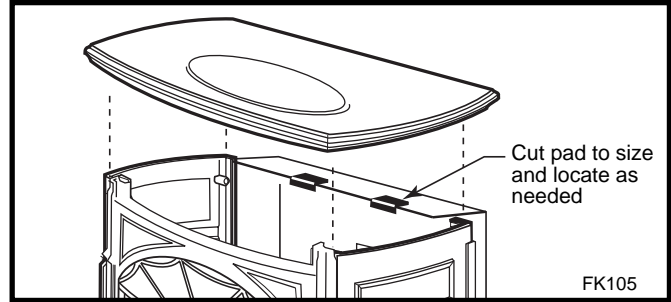

Fig. 21 Vibration dampening pad location.
- Cut the self-adhesive tape to size as needed, remove the backing paper and place tape on the top edge of the Shroud at those locations where it will eliminate direct contact between the Shroud and the Top Plate. (Fig. 21)